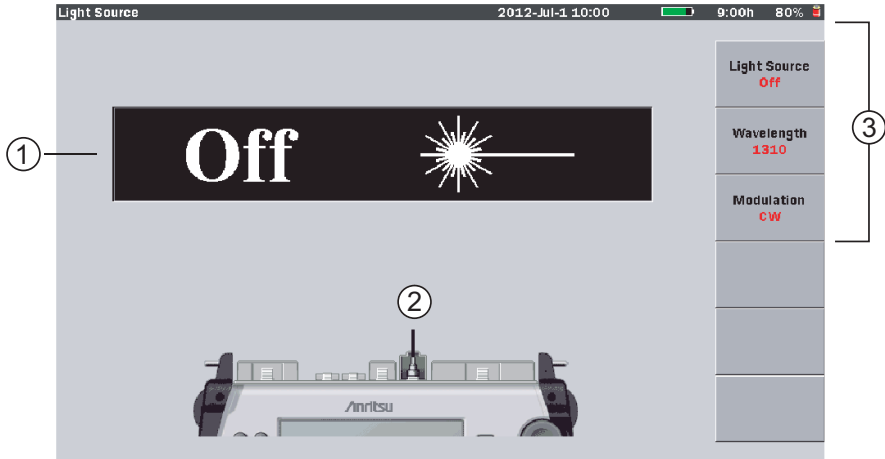

Figure 9-12: Optical Light Source Screen Elements
The measurement port indicated varies according to the optical wavelength of the light to be emitted. Item 2 in Figure 9-12, the Port Connection indicator, displays the port to be used when testing.
Press the Light Source Off softkey to start the optical light source. The red legend on the softkey as well as the legend in the Light Source Wavelength indicator (see item 1 in Figure 9-12 on page 9-28) change to “On”. In addition, the background of the Light Source Wavelength indicator changes from black to red.
2. Press **Light Source Off (f1)** to turn on the light source. The red legend on the softkey changes to “On”. In addition, the Light Source On/Off indicator (see item 1 in Figure 9-12 on page 9-28) changes to read “On” and its background changes from black to red.